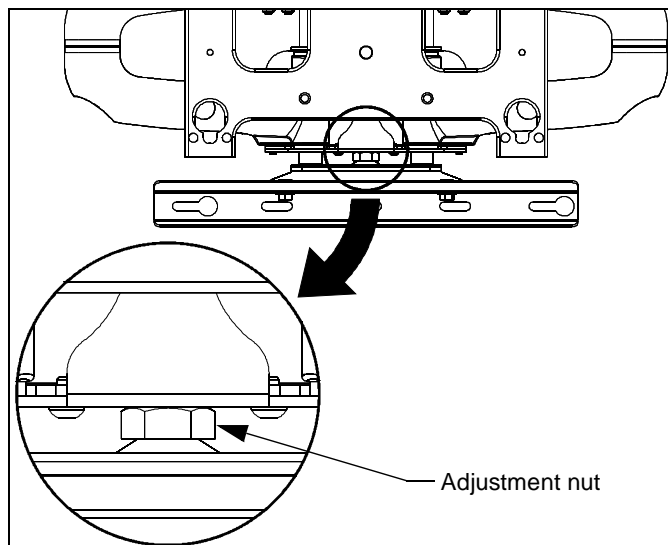

Figure 3
1. Check PDR for the desired height. If needed, use the adjustment wrench (E) to adjust the PDR height. (See Figure 3)